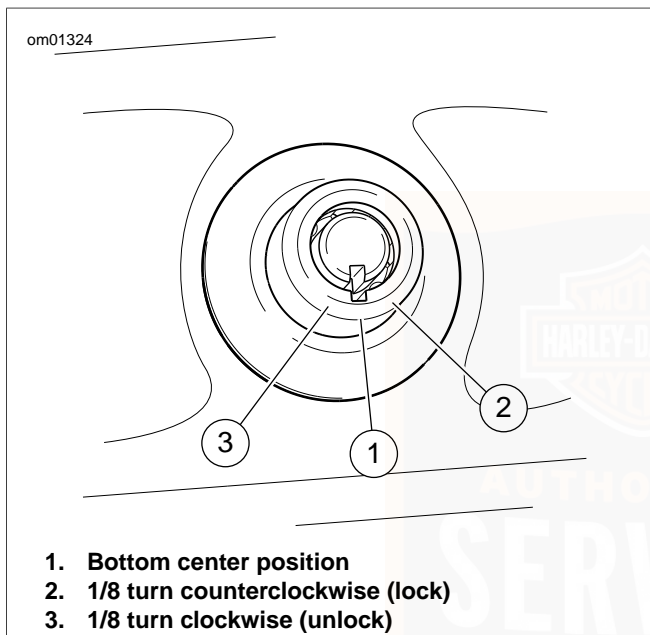

Figure 16. Trunk Lock
1. See Figure 16. To unlock trunk, insert key into barrel lock and turn one-eighth turn clockwise. Return key to bottom center position and remove.